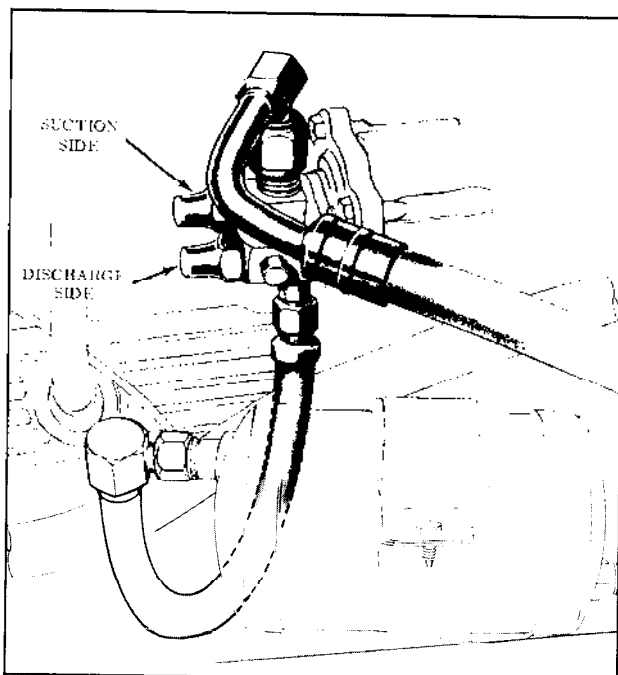

Fig. 14-29 Shut-Off Valve Location
1. With the engine stopped, remove protective caps from compressor discharge and suction shut-off valves. (Fig. 14-29)